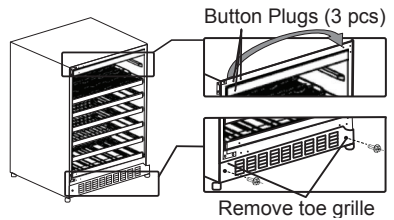

Figure 4
4. Remove the three button plugs from the upper left corner of the cabinet and transfer them to the holes on the opposite side. Be sure to press the button plugs firmly into the holes. Remove screws from each side of toe grille and lay toe grille flat on floor in front of unit. (See Figure 4.)